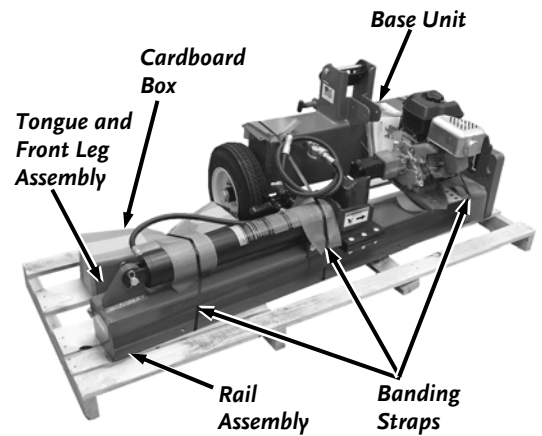

Figure 3
2. Locate and check the condition of the larger components on the shipping pallet (**Figure 3**). If you have any questions, call DR Power Equipment at 1 (800) 376-9637.
3. Cut the remaining banding straps, open the cardboard box, and make sure all the smaller parts have been shipped. The chart in the "Shipping List" section provides a complete list of all the parts shipped with your wood splitter. If you have any questions, call DR Power Equipment at 1 (800) 376-9637.